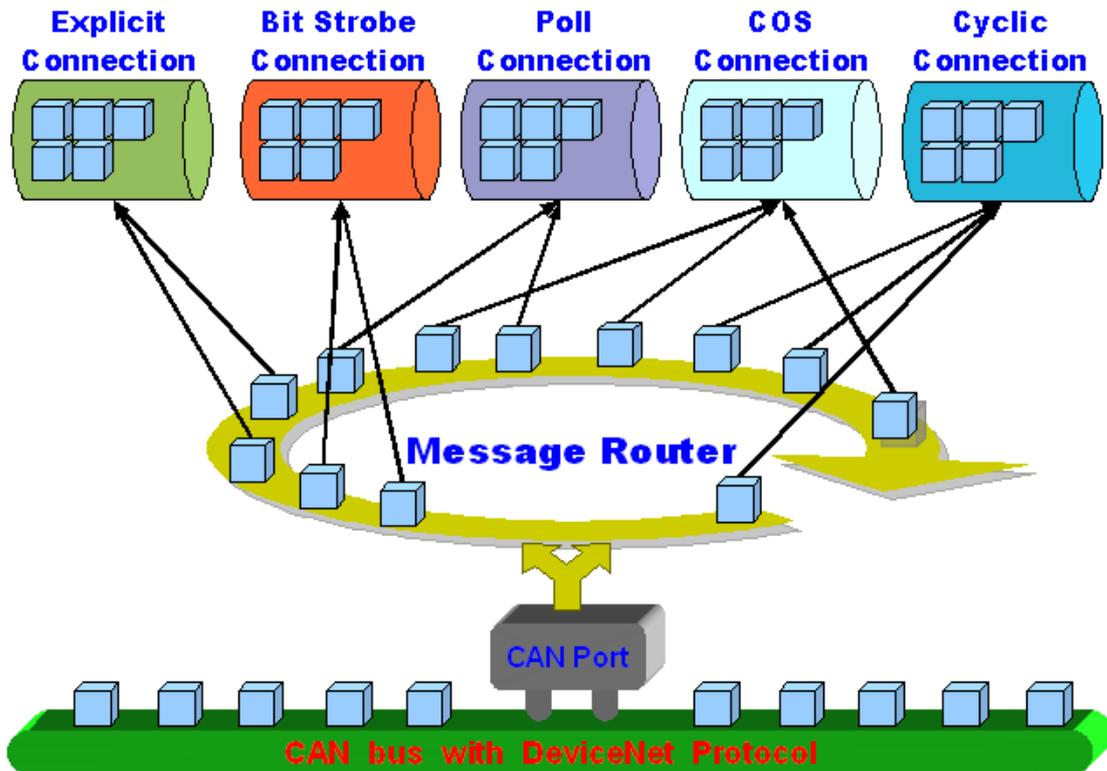

Figure 1.5.1 Message Router
1.5 PISO-DNS100(U) Firmware Characteristics
The PISO-DNS100(U) is a high-performance DeviceNet multi-slave board. The firmware inside the board implements DeviceNet slave protocol automatically when the board is active. The firmware always listens to the bus and receives the message at the same time. It works as shown in Figure 1.5.1.